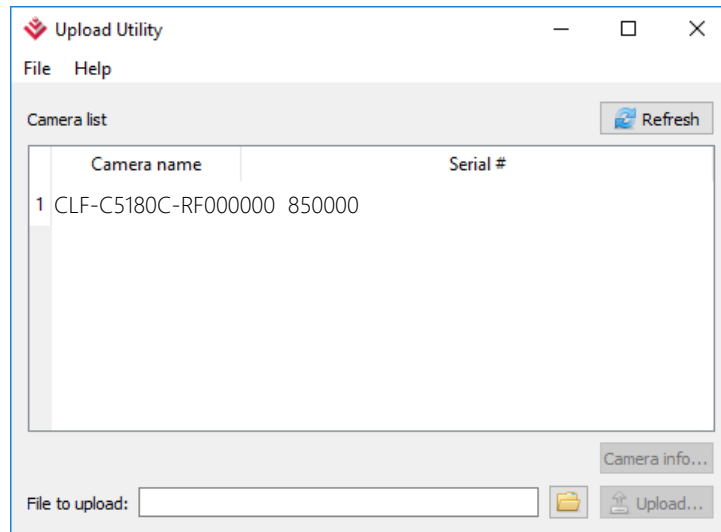

Figure 57: Detect a camera
2. Start the Imperx **Upload Utility** and wait for the Utility to detect the camera (Figure 57). If the utility does not detect the camera, click **Refresh** to restart the device collection.